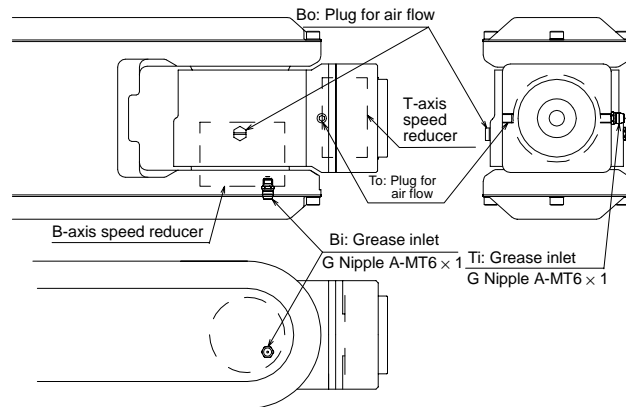

Fig. 30 B- and T-Axis Speed Reducers Diagram
2. Inject grease into the Bi and Ti grease inlets using a grease gun. (Refer to " Fig. 30 B- and T-Axis Speed Reducers Diagram ".)